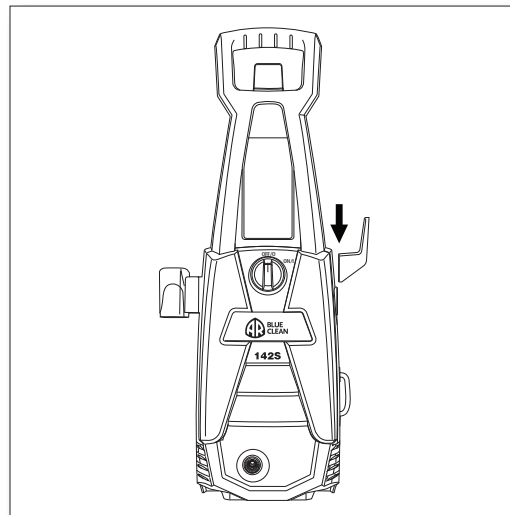

Fig. 3
- Slide (cord hook holder) onto the right side of the washer when facing it. This does not require any screws. (**Fig. 3**)